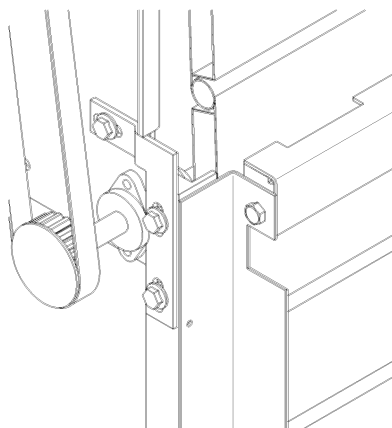

Figure 3
7. Now push the body of the rolling door in the direction of the front edge of the car until it touches the guide profile and screw it to the same (figure 3). Then screw the body of the rolling door to the roof of the car.